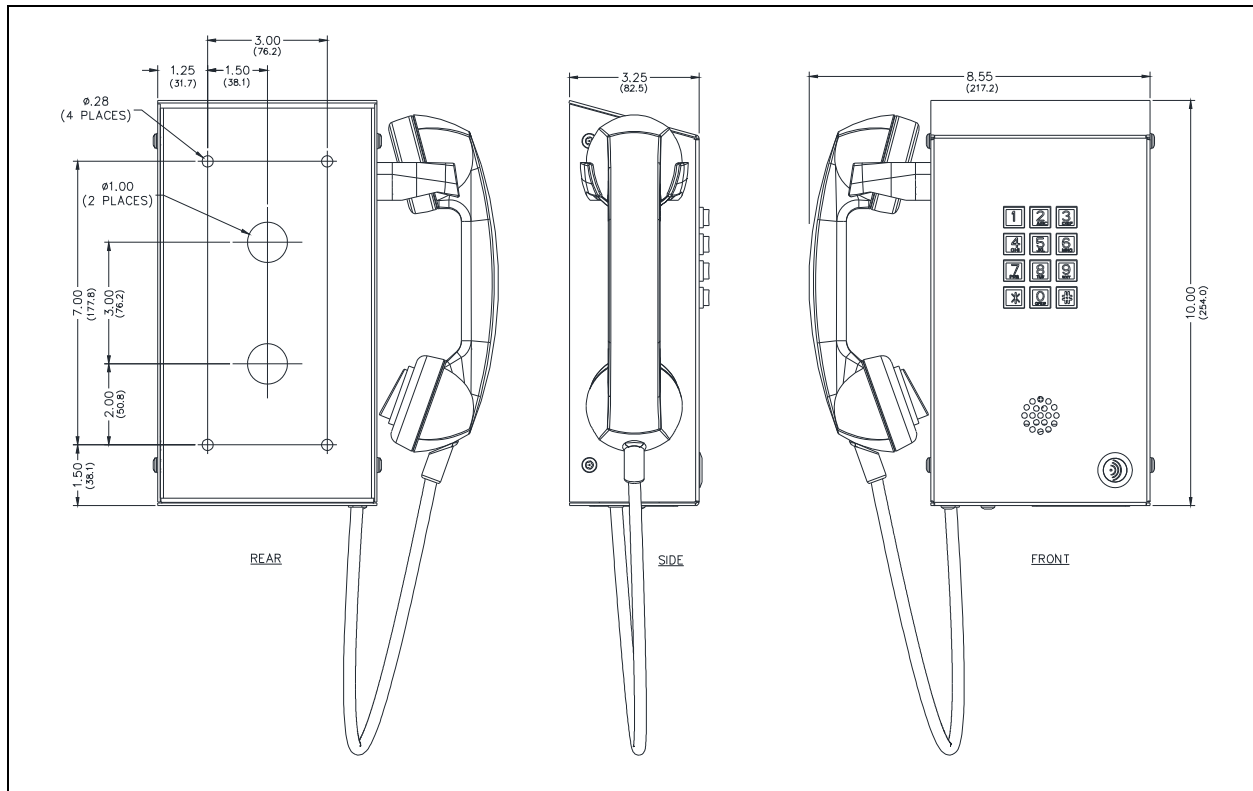

Figure 3. Models 210-710BH/-710BHAC VoIP Behavioral Telephones Outline and Mounting Detail
4. Two 1-inch diameter entry holes are provided on the mounting panel for cable entry (see Figure 3). Pull the Ethernet cable through one of the two holes and install the cable (see the Field Wiring section).